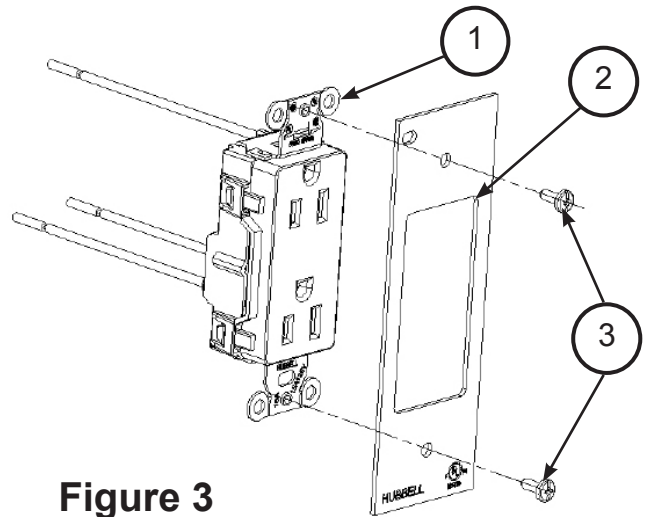

Figure 3
1. Catalog No. FB10MPREC (see Fig. 3).